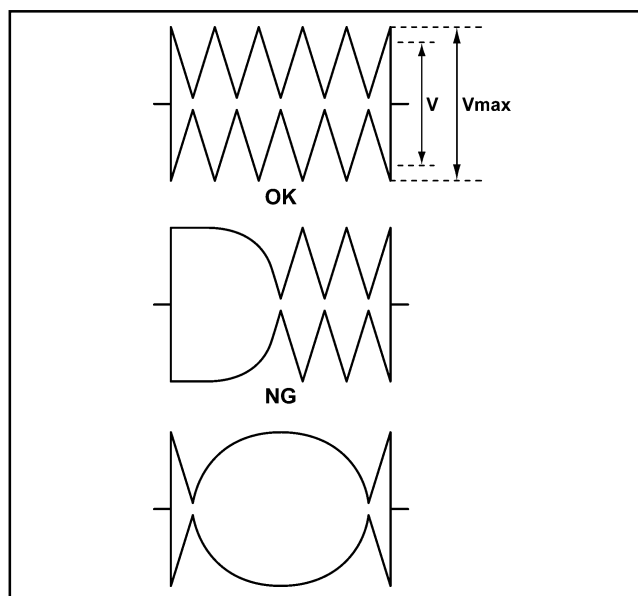

Figure 4-23
- Waveform must be Diamond Style. (Figure 4-23)